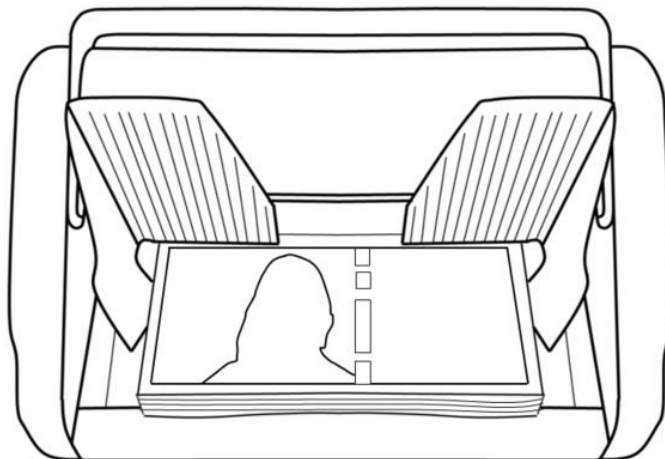

Figure 7
- 3) During the banknote counting process, the note guider should be limited according to the maximum size of currently counted notes to ensure that the banknotes can be accurately identified by the relevant sensors. Taking US dollars as an example, please arrange the banknotes first, and then limit the note guider according to the largest size banknote. Finally, put the banknotes into the hopper and start counting, as shown in Figure 7: